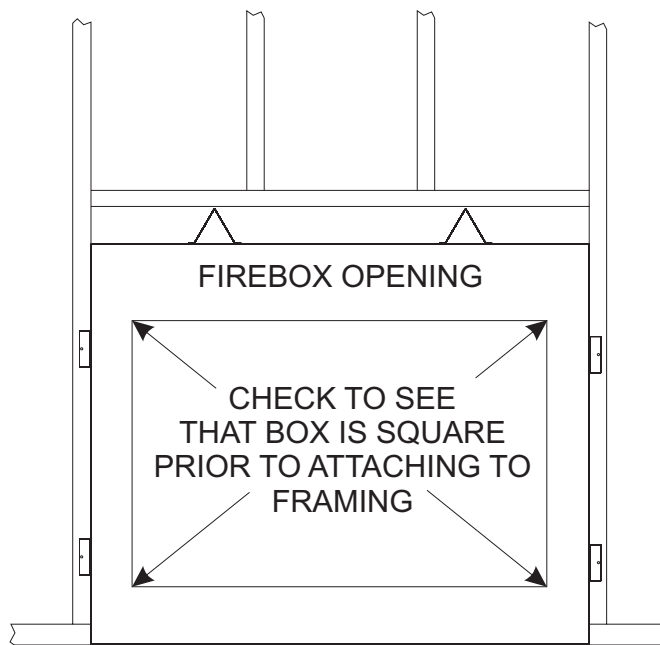

Figure 8
**IMPORTANT!** Check squareness of the firebox prior to securing to framed opening. **See Figure 8.**